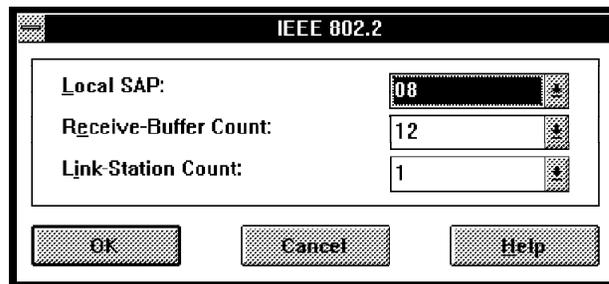

Figure 71. IEEE 802.2 Window - 3174 LAN Gateway - Windows 3.1
Selecting the **Advance** option is required to have concurrent access to the second host system (VM) through a single token-ring adapter in the 3174 and the workstation running Personal Communications. This is because you are using a single adapter address to access multiple PU instances in the 3174 multi-host gateway. The panel that appears when you select the Advance option on the IEEE 802.2 panel of PCOMM V4.1 for Windows 3.1 customization appears as Figure 71.